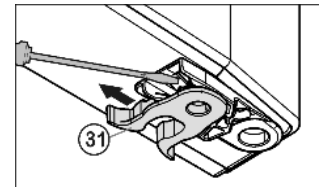

Fig. 10
- ▶ Transfer the spring clamp Fig. 10 (31): Depress the latch nose and pull the spring clamp off over it.